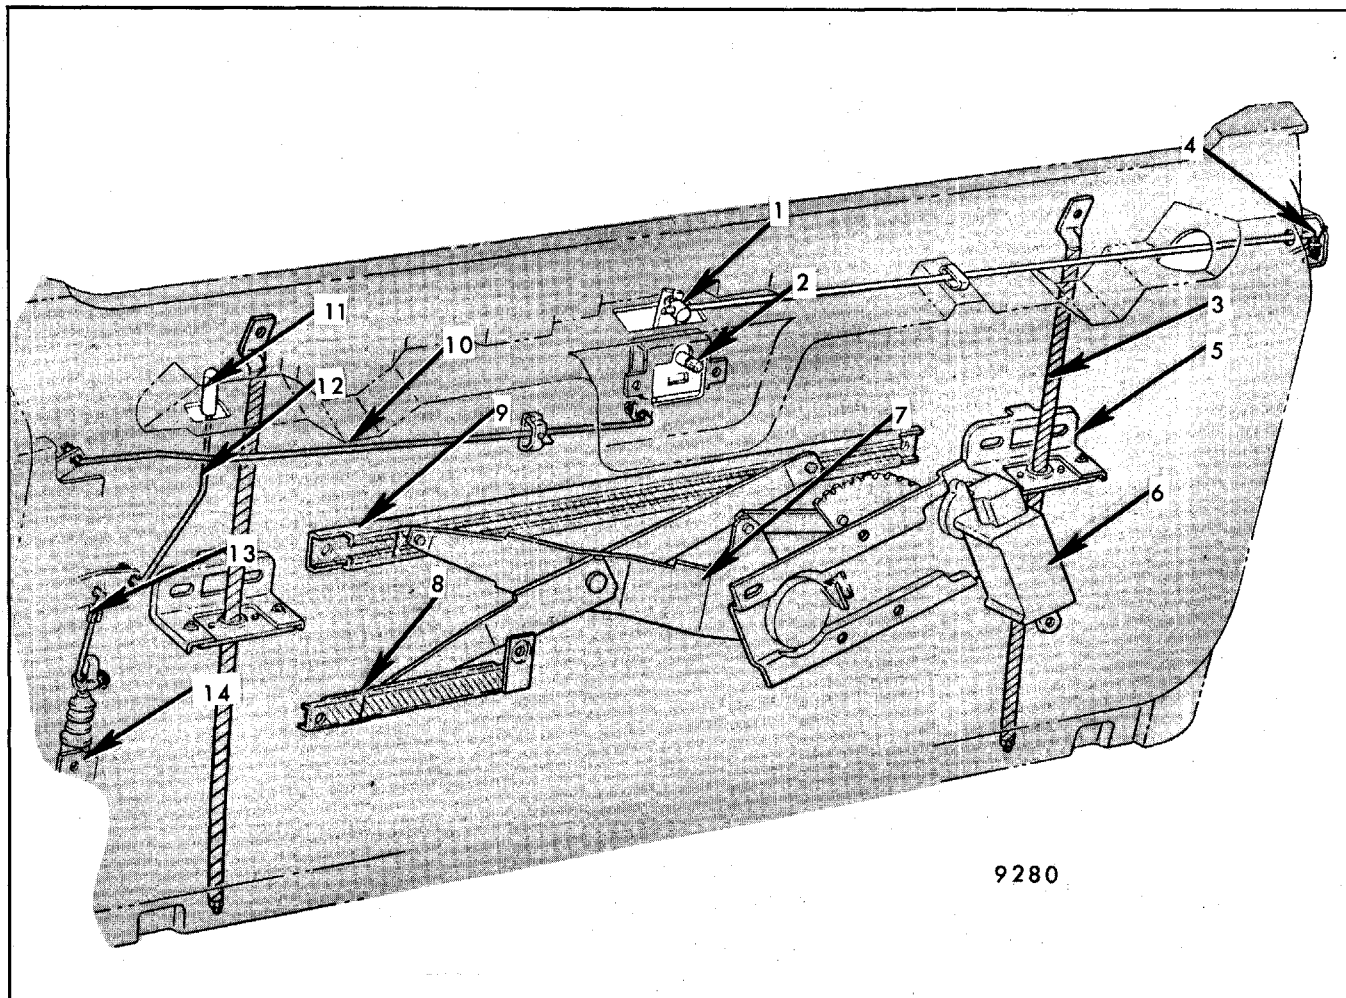

Fig. 7-147 - Tailgate Lock Synchronization Rods
3. Disengage left upper remote synchronization locking rod attaching swivel from clip at center remote assembly, Figure 7-147.